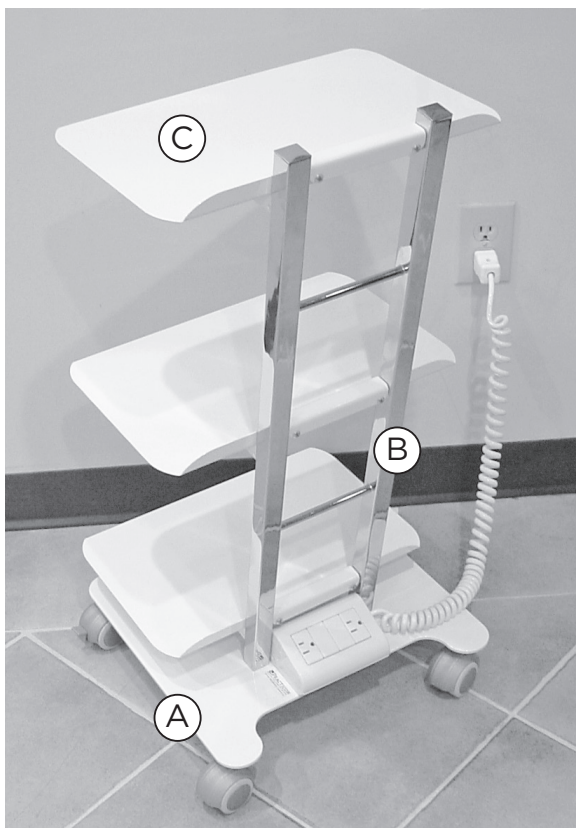

Figure 1
1. Attach support frame assembly (B) to base assembly (A) using two M8 bolts and two M8 washers. Tighten both bolts securely using the 6mm hex wrench provided.
2. Using the 3mm hex wrench provided, loosen the two M5 hex bolts on the back of each shelf (C) far enough to place each shelf over the preferred support frame rung.
3. Re-tighten the two M5 hex bolts on each shelf to prevent shelves from falling off rungs. Check each shelf for a secure attachment. Shelves will be able to pivot up, but should not be able to be removed from rungs (Figure 1).